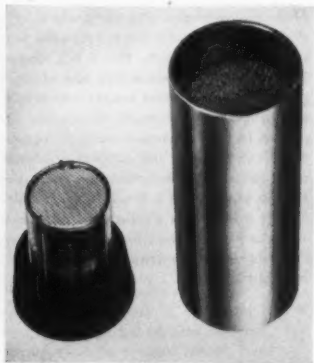

Fig. 4 . . . Permeability standard is resin-bonded core. Rubber stoppers and desiccant protect core when not in use.
9. Check all permeability machines daily with A.F.S. Permeability Standards (Fig. 4) for overall accuracy. These standards are available in four ranges—25, 50, 100, and 150 permeability. In case readings disagree, check over the above points and any other information contained in the manufacturer's instructions. Major repairs and re-